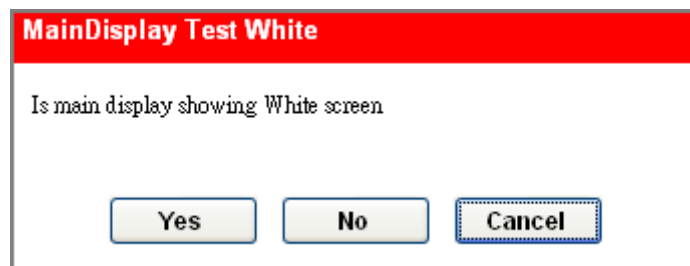

Figure 8. Prompted messages of HW tests
3. The corresponding messages [Figure 8] will be prompted in turn. According to the phone's response, click the button on the prompted window.